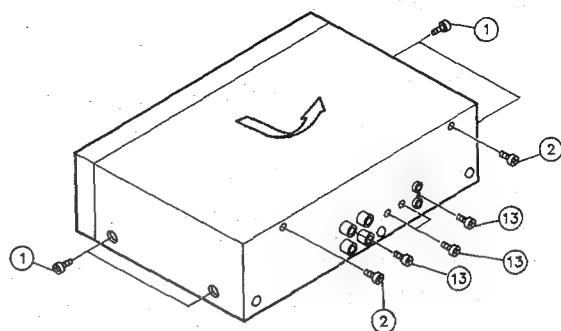

Fig. 2-1
◆ Top cover (Fig. 2-1)
1. Remove four screws ① retaining the top cover from both side.
2. Remove two screws ② retaining the top cover from the back side.
3. To remove the top cover, slide in direction of arrow and lift away (refer to Fig. 2-1).